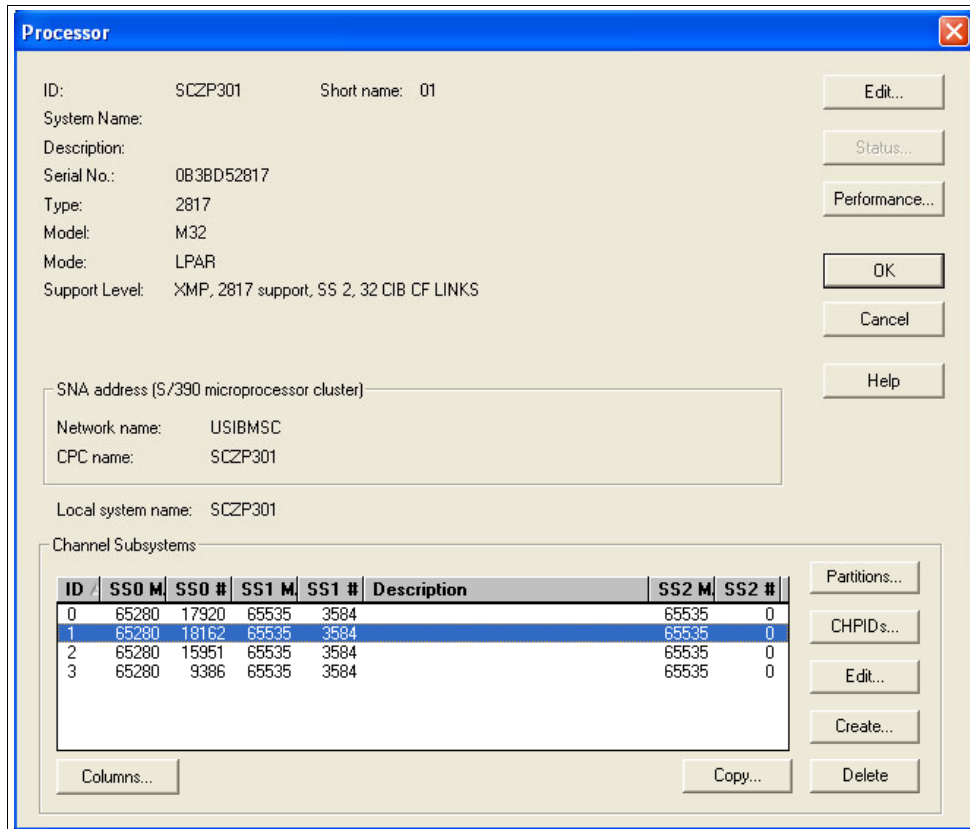

Figure 6-15 HCM Edit Processor
4. Double-click the top pane of the processor display to edit the processor, or select **Edit** → **Processor**, and select the processor from the list. Refer to Figure 6-15 on page 168.